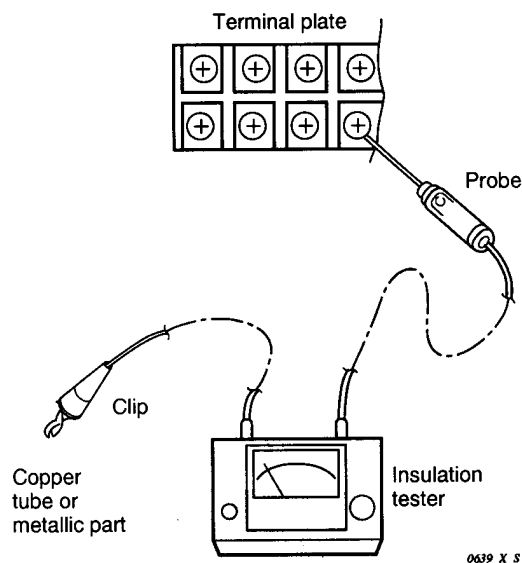

Fig. 6
Clamp an aluminum plate fin or copper tube with the lead clip of the insulation resistance tester and measure the resistance by placing a probe on the terminal plate (Fig. 6)
Measure the resistance by placing a probe on the terminal plate in the same manner as explained above ②. (Fig. 6)